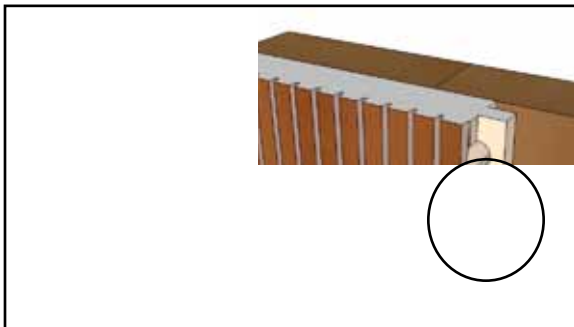

Figure 4
- Adhere or nail the ripped starting plank into position. Then secure the tongue with finishing nails into the horizontal blocking at a 45 deg angle. (Figure 4)